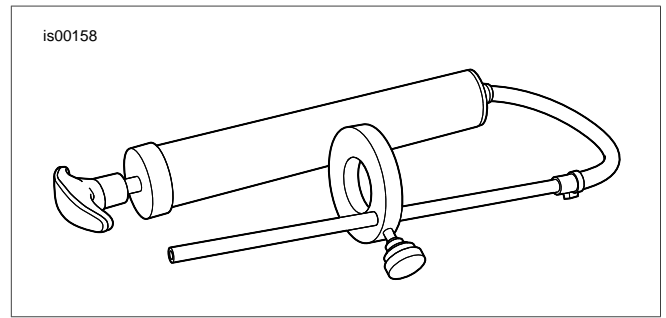

Figure 6. Front Fork Oil Level Gauge (HD-59000B)
- a. See Figure 6. Obtain the FRONT FORK OIL LEVEL GAUGE (Part Number HD-59000B).